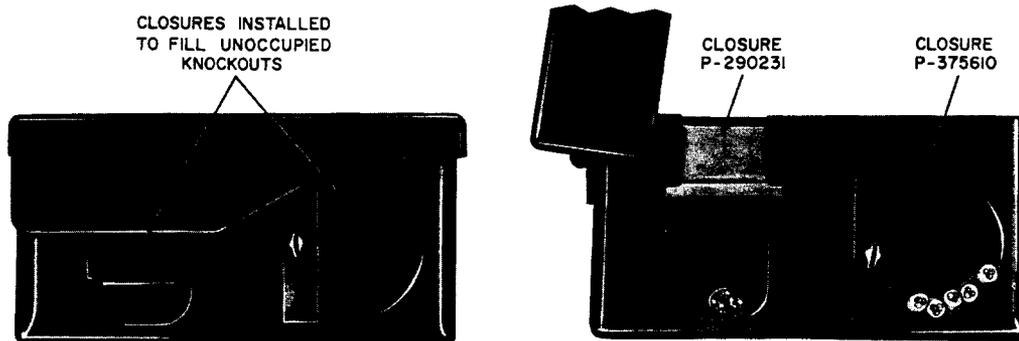

Fig. 7—Use of Closures
3.06 Use closure P-375610 to reduce opening at wire entrance hole, and closure P-290231 to reduce inside wiring cable entrance hole. (See Fig. 7.) These closures prevent dust and dirt from entering and also may be used to close off any unoccupied openings.